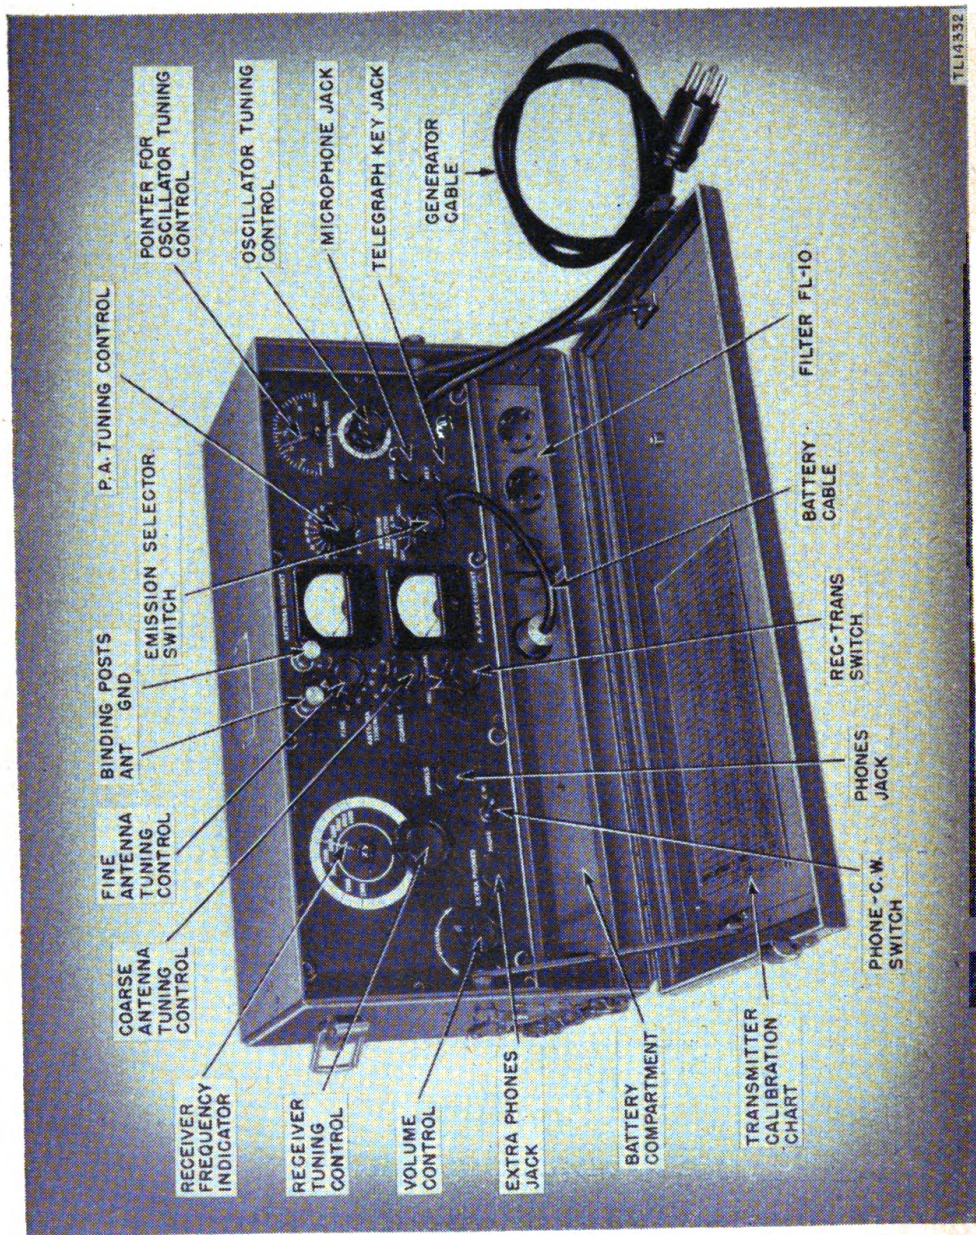

FIGURE 6.—Radio receiver and transmitter BC-474-A—front view.
d. Transmitter operation (see fig. 6).—After the equipment * * * operation as follows:
(1) Determine (directly or * * * **OSCILLATOR TUNING** control. (The digits on the left of the hyphen refer to the setting of the **OSCILLATOR TUNING** control pointer; those on the right refer to the setting of the dial attached to the **OSCILLATOR TUNING** control knob.) Adjust **OSCILLATOR TUNING** control to required setting by turning the **OSCILLATOR TUNING** control knob.
(3) Place **FINE** antenna control on 5 and **COARSE** antenna control on A. As soon as * * * dip is obtained.
(5) If c-w transmission * * * operate the key. No sidetone will be heard in the receiver when using c-w transmission.
(6) To place transmitter * * * to OFF position. When receiving, the transmitting tubes may be kept heated by continuing to crank the generator slowly.